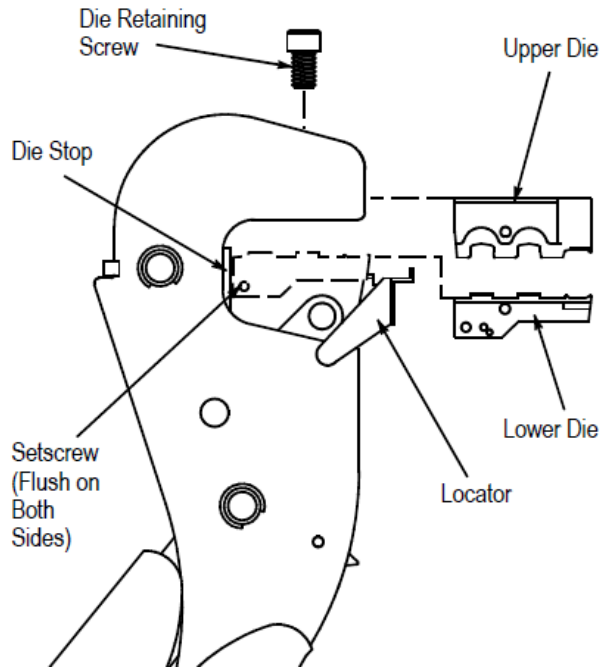

Figure 3
2. Hold the hand tool frame so that the back of the tool is facing you and note the socket head screw located in the lower die platform (see Figure 3).